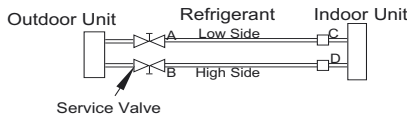

Fig. 13 – Service Valve
1. Completely tighten flare nuts A, B, C, D, connect manifold gage charge hose to a charge port of the low side service valve (see Fig. 13).